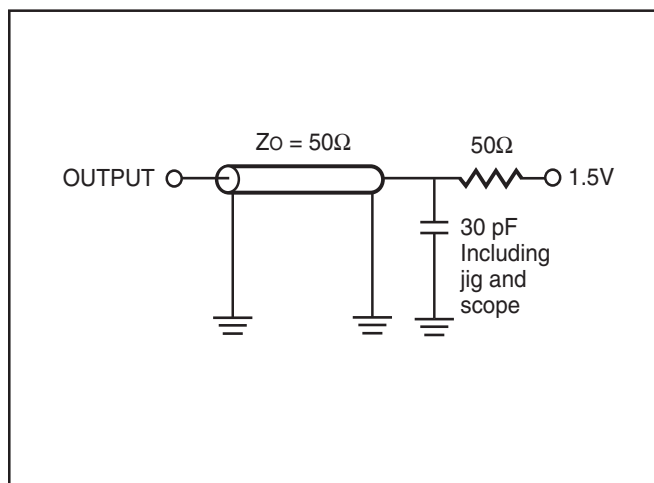

Figure 1
| Output Load | See Figures 1 and 2 |
- Test conditions assume signal transition times of 3 ns or less, timing reference levels of 1.5V, input pulse levels of 0V to 3.0V and output loading specified in Figure 1.
1. Test conditions assume signal transition times of 3 ns or less, timing reference levels of 1.5V, input pulse levels of 0V to 3.0V and output loading specified in Figure 1.